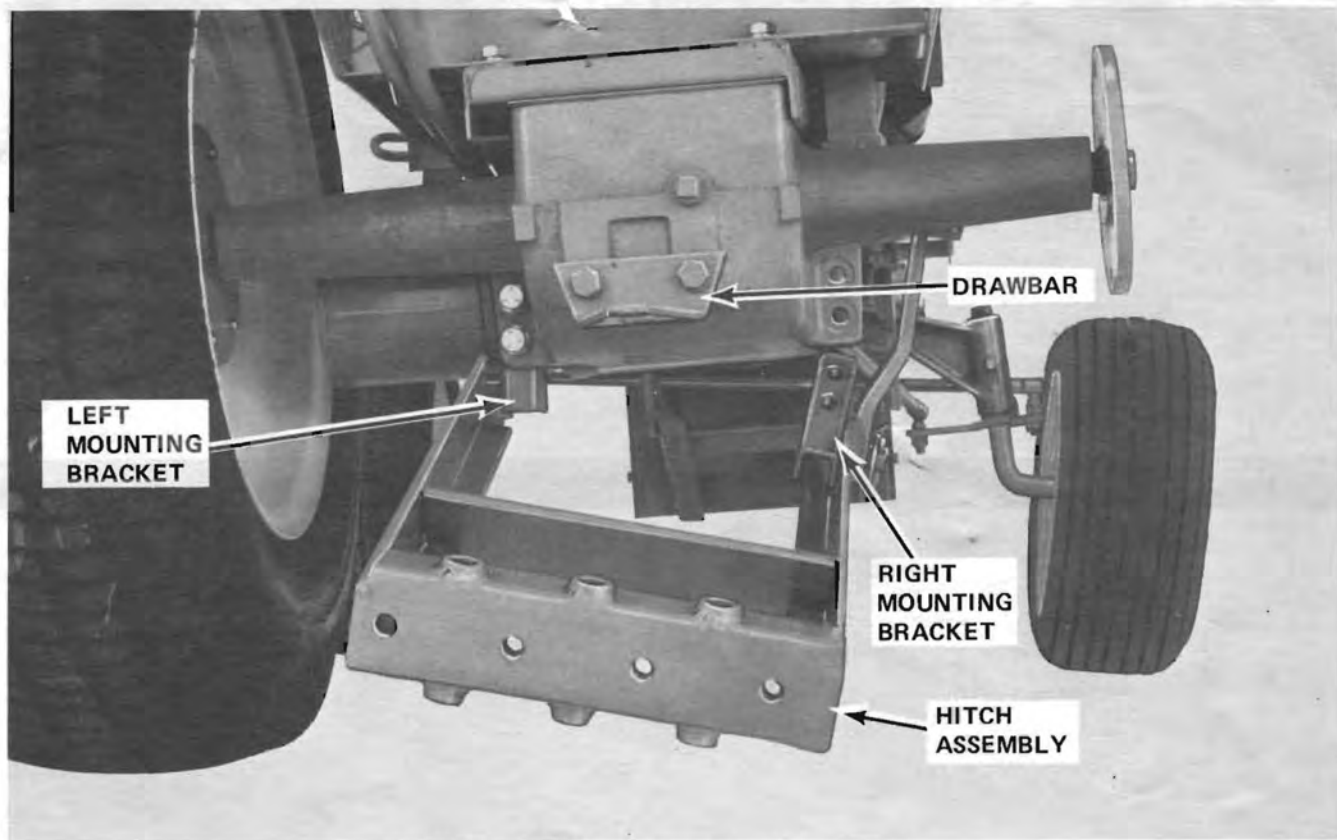

FIGURE 6 (Wheel and Tire removed for clarity)
4. **TRACTOR DRAWBAR** - See Figure 6. The tractor drawbar can be left installed when the sleeve hitch is mounted.
B. Perform the following: See Figures 6 and 7.